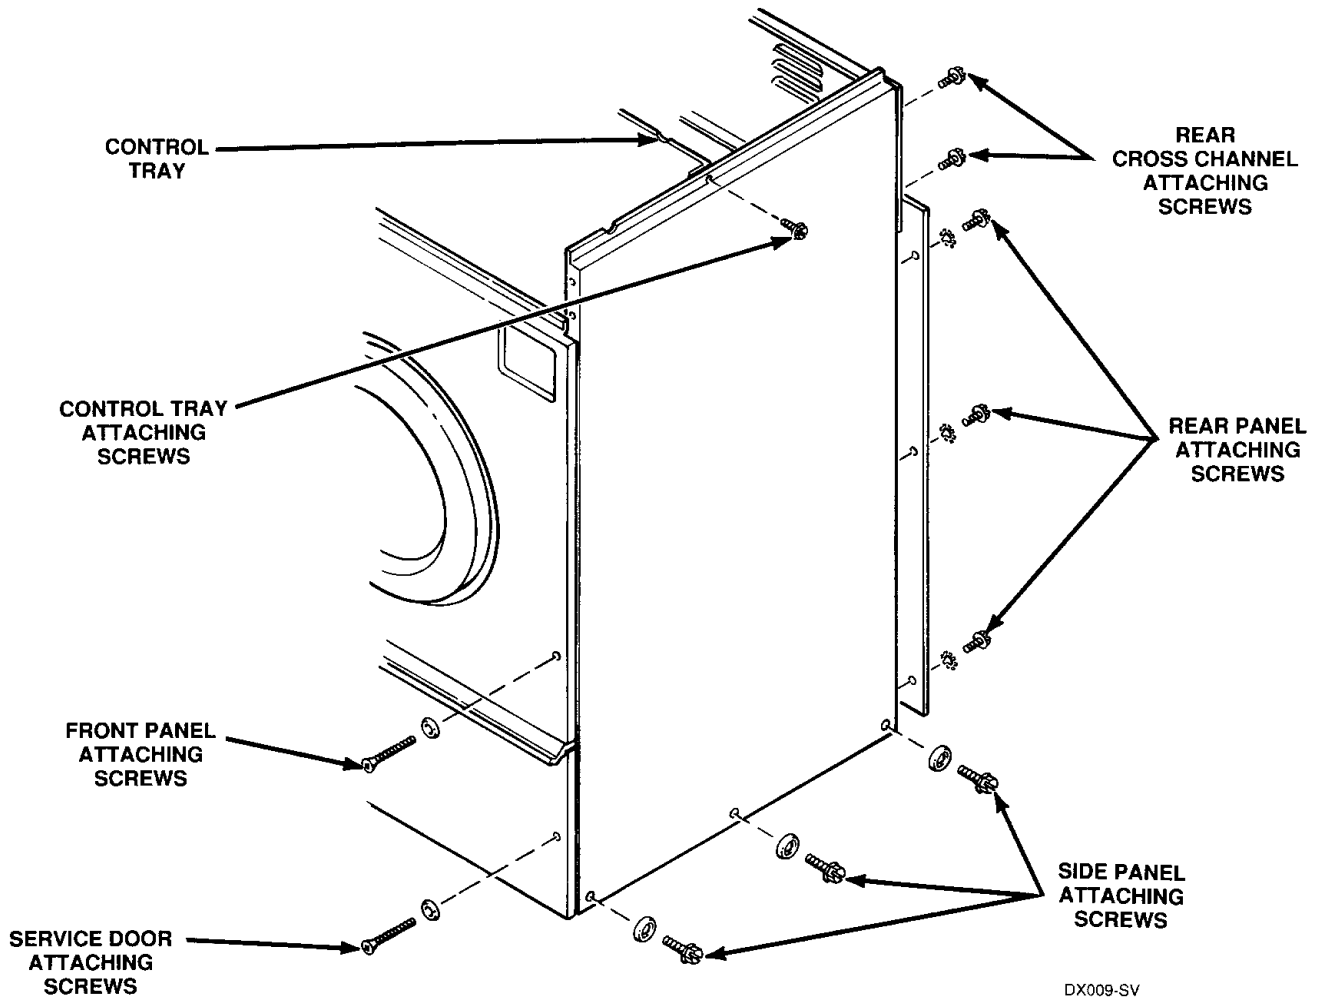

Figure 12
- g. **RIGHT SIDE PANEL ONLY** — Remove screws holding control tray to top flange of side panel, *Figure 12*.
- h. While supporting side panel, remove screws holding side panel to washer base, *Figure 12*.